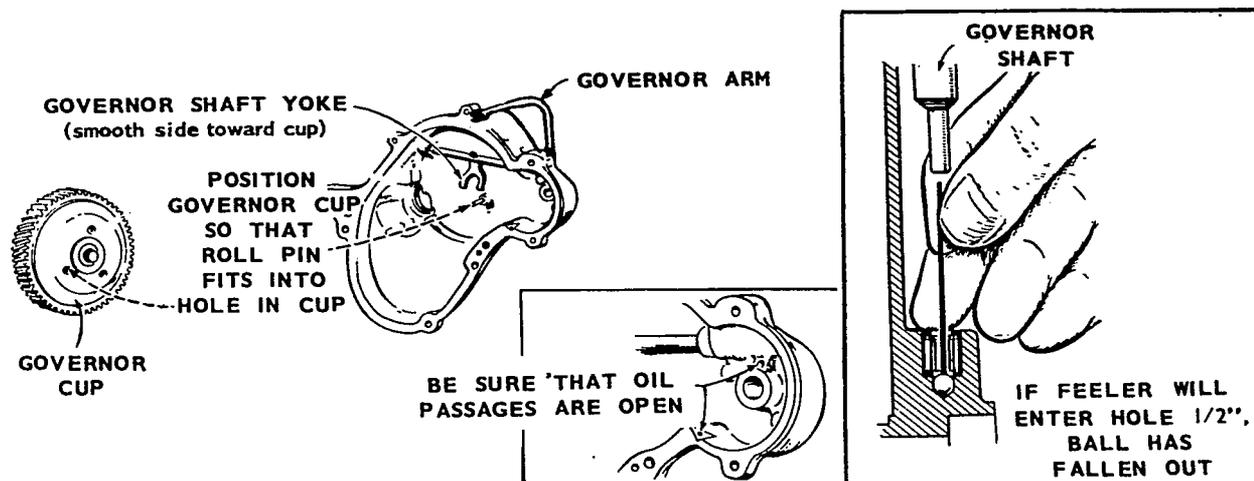

FIGURE 45. GEAR COVER ASSEMBLY
1. Work the governor shaft to check for binding and see that the governor shaft end thrust ball is in place (Figure 45). Later models have larger ball which will not fall out.
3. Turn the governor cup so the stop pin in the gear cover will fit into one of the holes in the cup surface (Figure 45). Measure the distance from the end of the stop pin to the mounting face of the cover. It should be 25/32-inch. If it is not, replace the pin. Pin should be positioned with open end facing crankshaft seal.